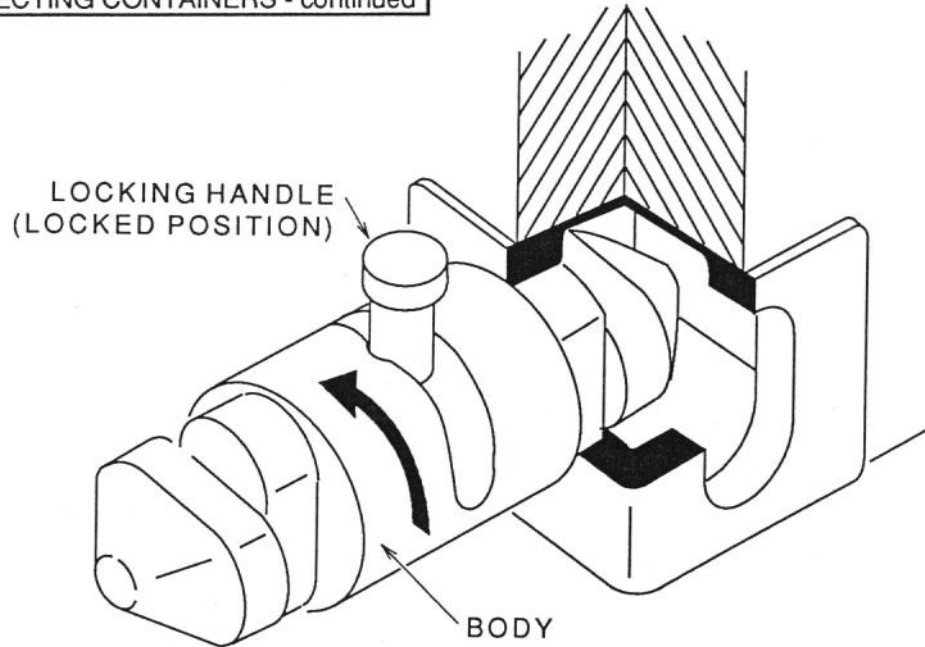

Figure 2-2. Container Connection View 2
- c. Align connector with I.S.O. opening. Locking handle to be perpendicular (90°) to the side of the container when locking handle is in the locked position as shown in figure 2-2.